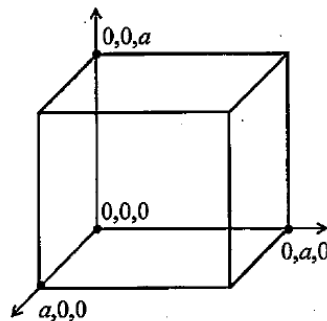

Fig. 2
- (1) Draw the unit cell.
- (2) Consider the hard-sphere model. Obtain the atomic radius  $R$  using  $a$ .
- (3) There are two different types of interstitial sites in fcc.
- b) Obtain all the coordinates of the interstitial sites in the unit cell referring to Fig. 2.
- (4) The slip motion of dislocations causes plastic deformation of metals. It occurs more readily along with certain crystal directions on certain planes than along with others. These combinations are called a slip system.